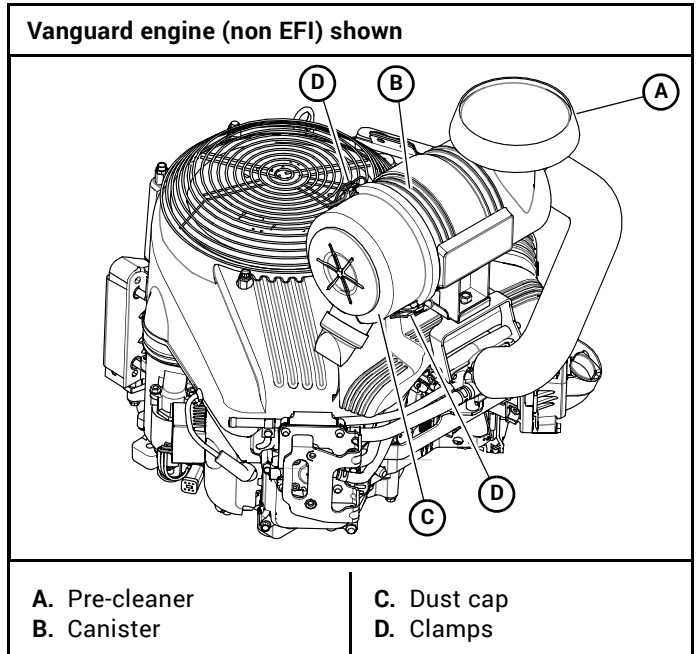
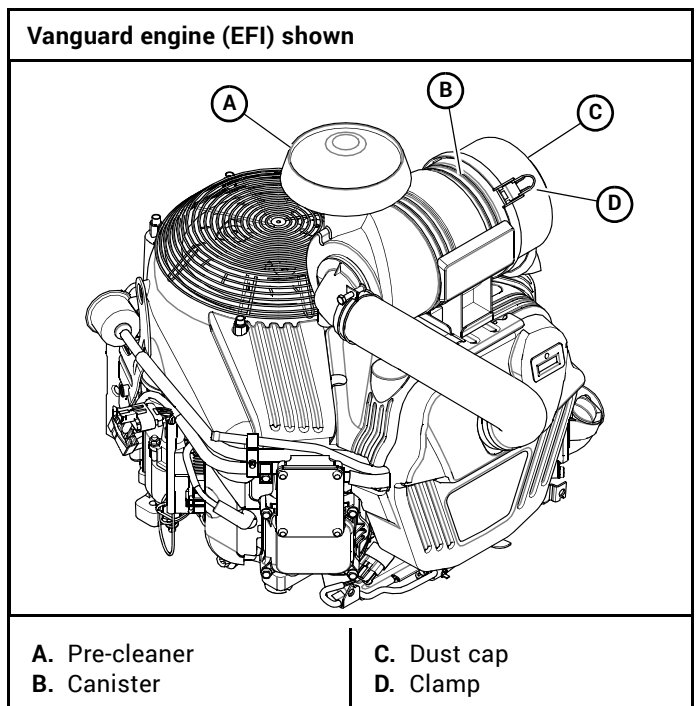
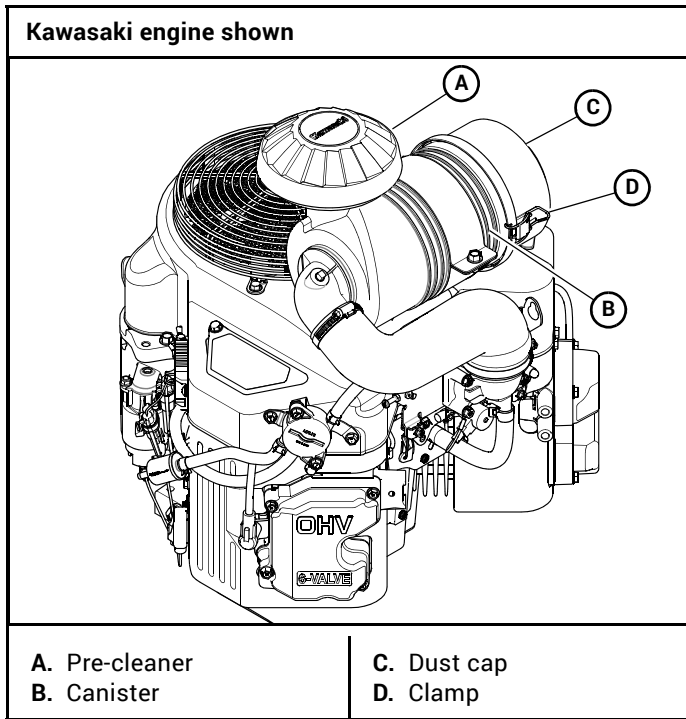

Figure 4-12
Figure 4-13
Figure 4-14
A specially designed dry filter is standard equipment on these mowers and supplies clean combustion air to the engine. Figure 4-12, Figure 4-13, and Figure 4-14
3. Reinstall the dust cap. Make sure it seals all the way around the air cleaner canister, then tighten the clamps. Figure 4-12, Figure 4-13 and Figure 4-14